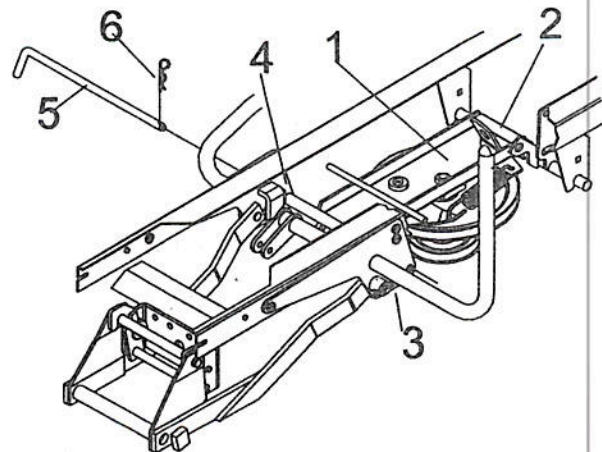

Figure 10
- a) Install the drive kit underneath the tractor (fig. 10, item 1) by hooking the rear portion to the cross shaft of the lift mechanism (item 2). Install the front portion between the supports (item 3 & 4) with the pin (item 5) and secure with hair pin (item 6).
3. Dismount the drive kit by removing the hair pin (fig. 10, item 6) and the front pin (item 5). Carefully lower to the ground. Detach the V-belt from engine pulley.